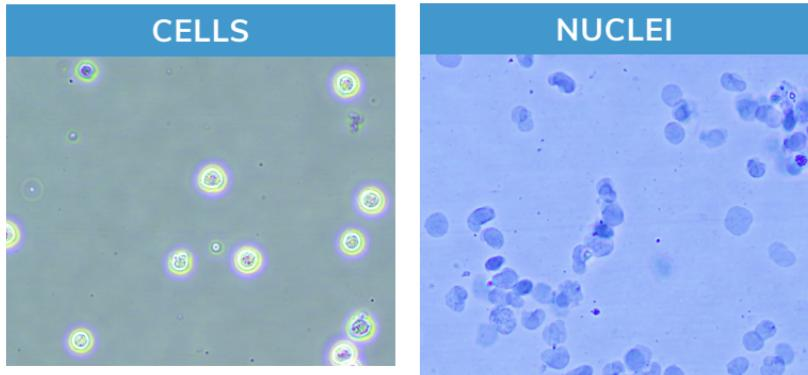

FIGURE 18
3. Counts cells and confirm starting cell integrity by Trypan Blue staining (see **Figure 18 & Appendix 1.2**). Harvest 500,000 cells per reaction plus 10-20% excess to account for sample loss.
8. Take a 10 µL aliquot to examine nuclear integrity by Trypan Blue staining. See **Appendix 1.2** for staining instructions and **Figure 18** for expected results.